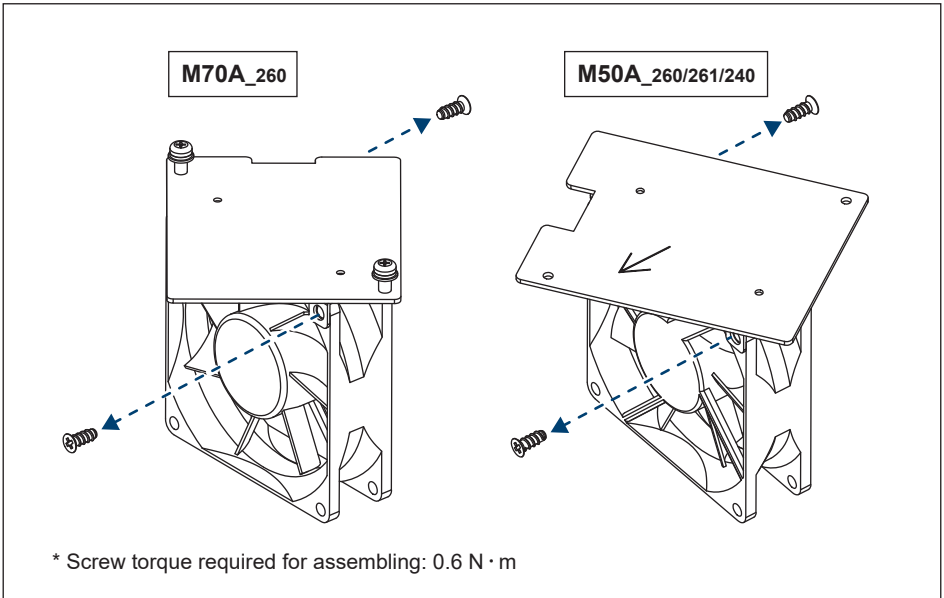

Figure 5-13: Replace with a new fan
- (5) Clean assembly or replace with a new fan. (shown in **Figure 5-13**)
- (6) Reassemble using a tightening torque of $0.8 \text{ N} \cdot \text{m}$.